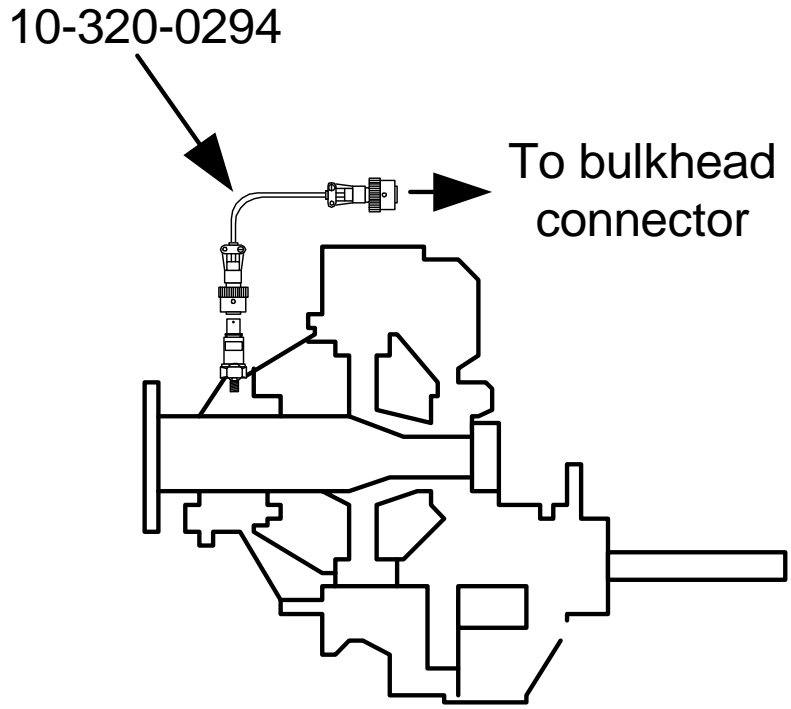

Figure 1
3. Disconnect the sensor cable from the installed sensor (or dummy sensor) and from the bulkhead. Install the 991V to ATR42/72 Interface cable, item 2, to the bulkhead where the previously installed cable was attached. (See Figure 1.) To balance both engines during a single run, repeat the above procedure on the second engine using a second interface cable, item 5.
4. Remove the installed sensor (if not a functional 991V sensor) and install the 991V Vibe Sensor (Item 3) into the mounting hole. Connect the 991V to ATR42/72 interface cable, item 2, to the now installed 991V vibration sensor. Repeat this procedure for the second engine using a second 991V vibration sensor, item 6.